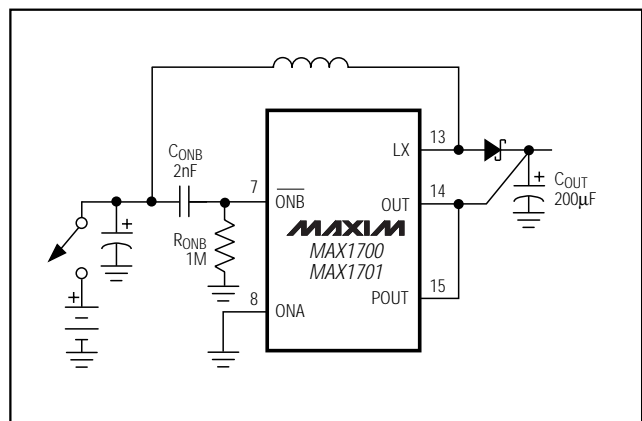

Figure 12. Connecting  $C_{ONB}$  and  $R_{ONB}$  when Switch or Battery-Contact Bounce Is Anticipated
1) Connect a capacitor ( $C_{ONB}$ ) from  $\overline{ONB}$  to  $V_{IN}$ , a  $1M\Omega$  resistor ( $R_{ONB}$ ) from  $\overline{ONB}$  to GND, and tie ONA to GND (Figure 12). This RC network differentiates fast input edges at  $V_{IN}$  and momentarily holds the IC off until  $V_{IN}$  settles. The appropriate value of  $C_{ONB}$  is  $10^{-5}$  times the total output filter capacitance ( $C_{OUT}$ ), so a  $C_{OUT}$  of  $200\mu F$  results in  $C_{ONB} = 2nF$ .